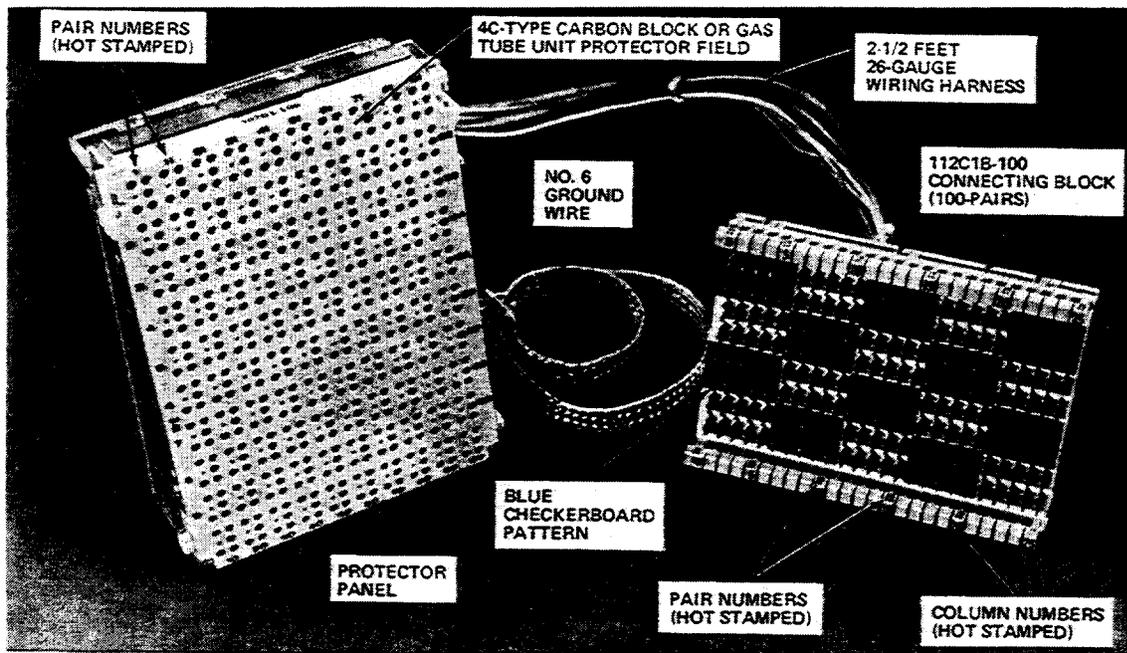

Figure 22—307D1-100 Connector
6.06 The 307-type connectors (Figure 22) are designed for use on the *COSMIC II*, *COSMIC IIA*, and *COSMIC II Mini* distributing frame systems,